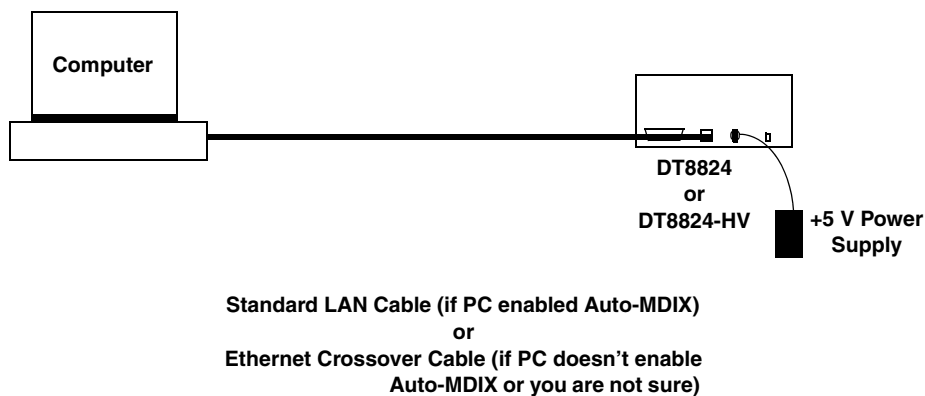

Figure 6: Typical Private LAN Connections when Connecting Directly to a Computer
1. Connect the +5 V power supply to the power connector on the rear panel of the DT8824 or DT8824-HV. Refer to Figure 6.
3. Press the Power switch on the rear panel of the instrument module, shown in Figure 6, to turn on the DT8824 or DT8824-HV instrument module.